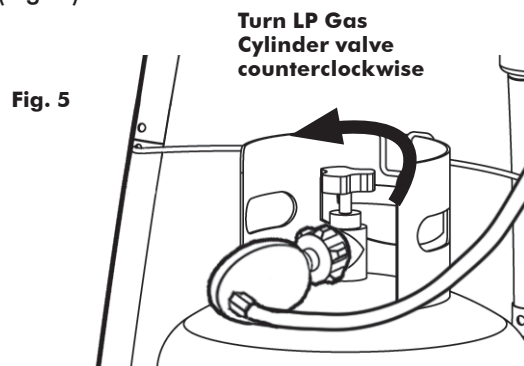

Fig. 5
3. Turn the LP Gas Cylinder valve open counterclockwise until it stops. (Fig. 5)
3. Turn the LP Gas Cylinder valve open counterclockwise until it stops. (Fig. 5- P.27)
3. Turn the LP Gas Cylinder valve open counterclockwise until it stops. (Fig. 5 - P.27)